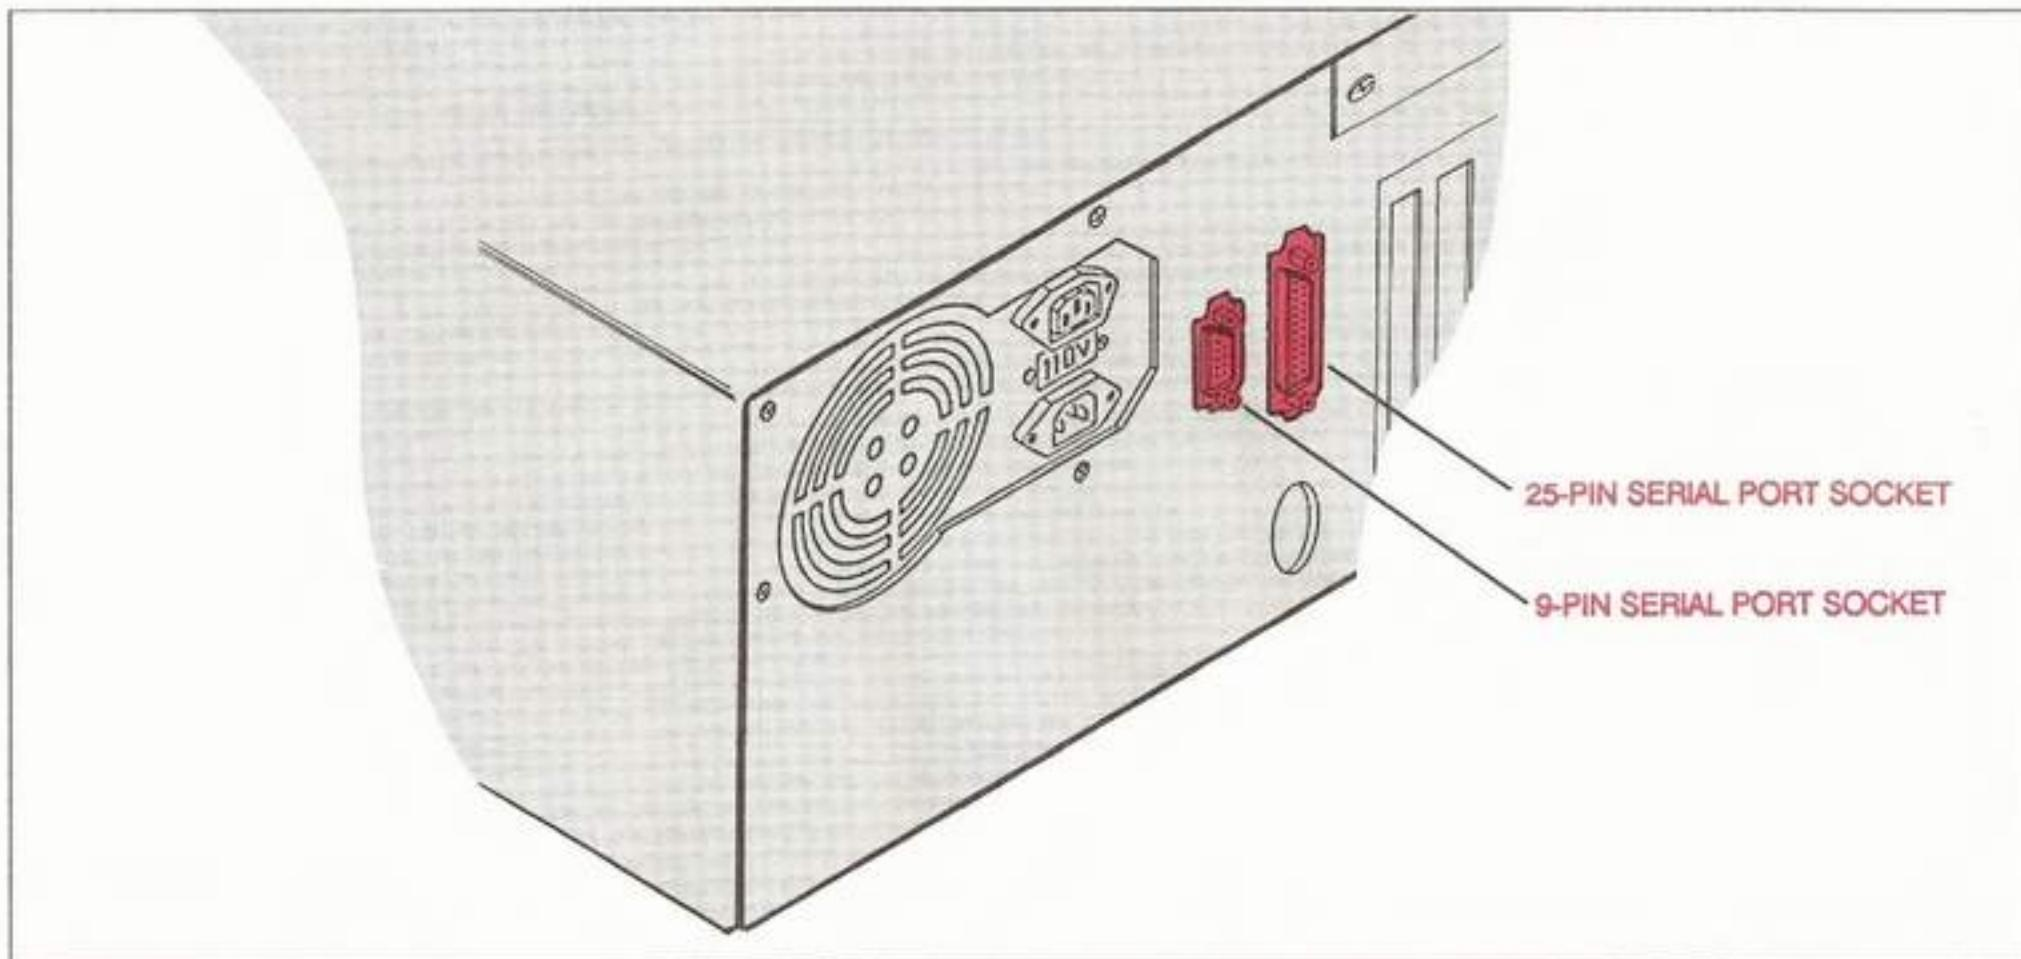

Fig. 8: The Serial Port Mouse Connection
- _____ j. Referring to Fig. 8, locate the Serial Port Mouse Connection on the Input/Output (I/O) adapter card installed in the computer.
Note: You will have to look through the slots on the computer's back panel to find it. On most IBM-compatible computers, it is a female 9-pin D-Shell connector socket, but on some models it is a female 25-pin D-Shell connector socket which is mounted in an adjacent opening in the computer's back panel. Both types are shown in Figs. 8 and 9.